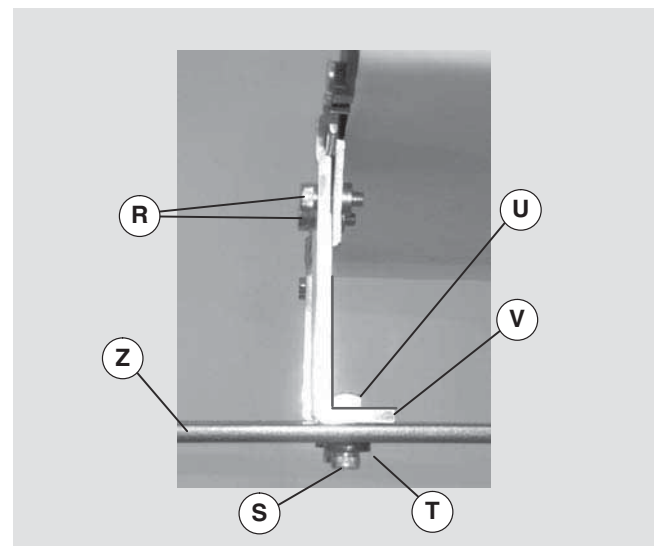

Figure 11
6. Attach stand mounting bracket (Figure 11, item V) to stand (Z) with two screws (S), hard washers (T) and square nuts (U). Tighten screws (S) to 80 in-lb (9 Nm).